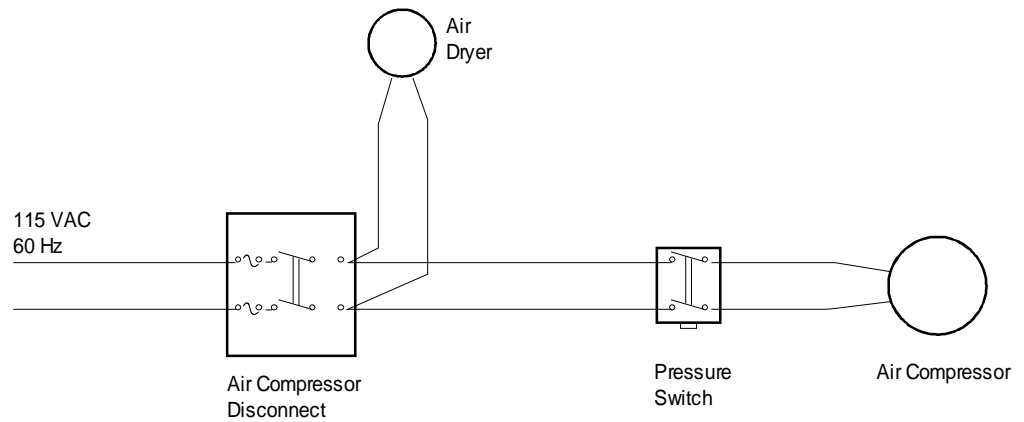

Figure 4: Single-Phase Air Compressor Motor
Wiring may be run through the load side of the air compressor disconnect switch ahead of the Pressure Electric (PE) switch, as illustrated in Figure 4. Doing so will allow continuous A-4400 operation whenever the disconnect switch is closed, while control over the air compressor is retained by the PE switch.
Note: The air dryer motor voltage must match the air compressor motor voltage in order to wire the unit as illustrated in Figure 4.